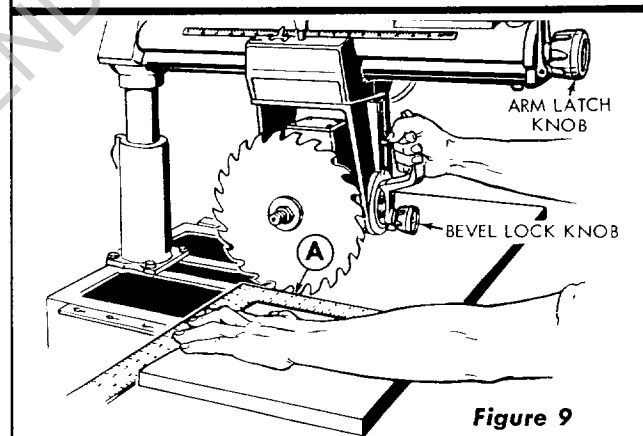

Figure 9
- Loosen the arm latch knob (figure 9) 1/4 turn. Make sure the yoke clamp handle and bevel lock knob are tight.
- Place a framing square on the table as shown in figure 9 and position the saw and square until the leg of the square just contacts a tooth of the saw blade. (Position "A", figure 9.) Mark this tooth with crayon or chalk.
- If saw tooth ("A", figure 9) moves away from the square when moving the blade from the rear toward the front of the table, tap the right-hand front edge of the table.
- If the saw tooth ("A", figure 9) moves into the square when moving saw from the rear to the front of saw table, tap the left-hand front edge of table.
- Turn the arm latch handle (figure 9) one-quarter turn counterclockwise but do not pull it out.
- d. Move radial arm slightly in the proper direction to make saw tooth ("A", figure 9) follow edge of square when the saw blade is moved in and out in a "cross-cut" manner.
- e. Re-tighten the hex head screws (5, figure 10) and arm latch handle (See figure 9).